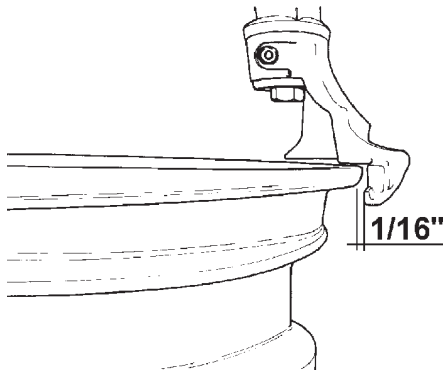

Fig. 4.1-4
E. Gently position the mount/demount head in contact with rim edge, now manually push the lock lever up and lock it into place. The mount/demount head automatically moves vertically up and away from the rim edge. Turn the swing arm adjustment knob clockwise until the mount/demount head moves horizontally away from the rim flange by approximately 1/16" (2mm); this is necessary to avoid any rim contact during the changing process. (Fig. 4.1-4).